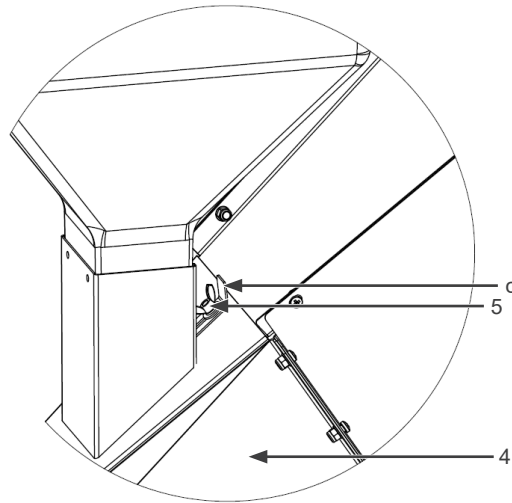

Figure 8.5: Illustrative image of the wing nut adjustment
- When using 3 mm and 5 mm screens, install them as follows the dry product in the grain funnel (1).
- Loosen the wing nut (5) located at the top of the green funnel (4), and adjust the opening of the grain outlet closure cover (c) by pulling or pushing as needed for grain output. After adjustment, tighten the wing nut (5) as shown in Figure 8.5 on page 141.